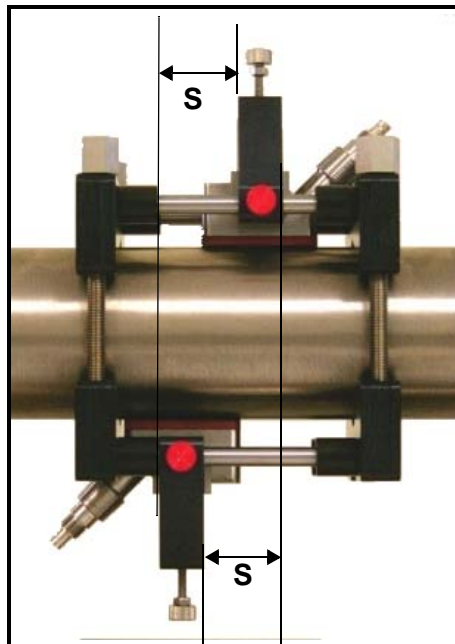

Figure 3-12: Top View of V4 Fixture with Both Transducers
The overall spacing between yokes should be left edge to left edge, or right edge to right edge. Figure 3-12 below shows typical positioning.
4. In a similar manner, install the second transducer as shown in Figure 3-12 above.